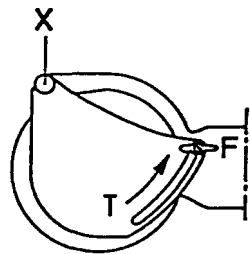

Figure 7: Adjustment of the depth stop
The saws are equipped with an adjustable depth stop (T). The stop (T) must be adjusted for the respective application. Loosen wing nut (F) and pivot stop (T) about pivot point (X) and then tighten wing nut (F) again (see Fig. 7).